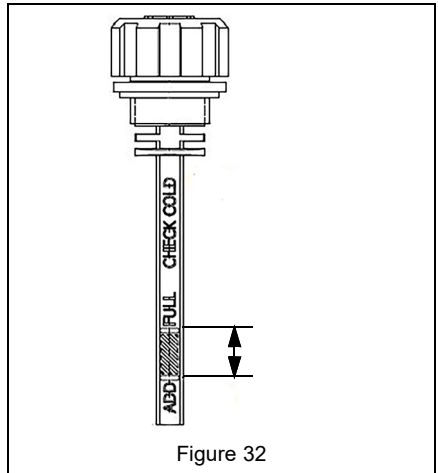

Figure 32
2. Check oil level in hydraulic tanks. Oil should reach the hashed area of the dipstick. DO NOT overfill. See Figure 32.